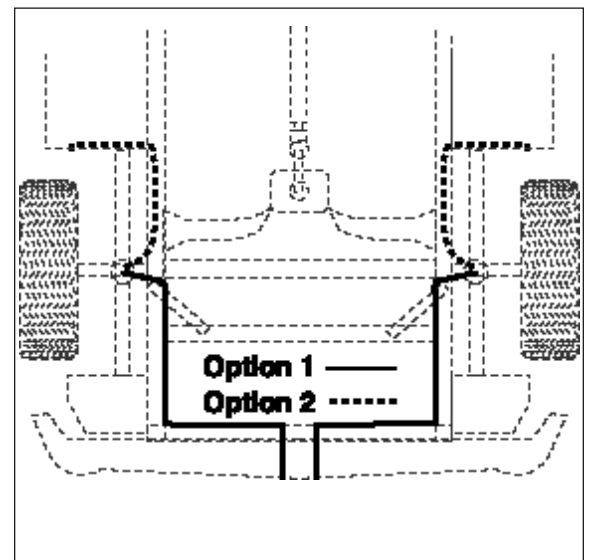

Figure 8
- Select a location for the inflation valves in the rocker panel flange, or rear bumper, insuring that each valve will be protected and accessible with an air hose (Figure 8).